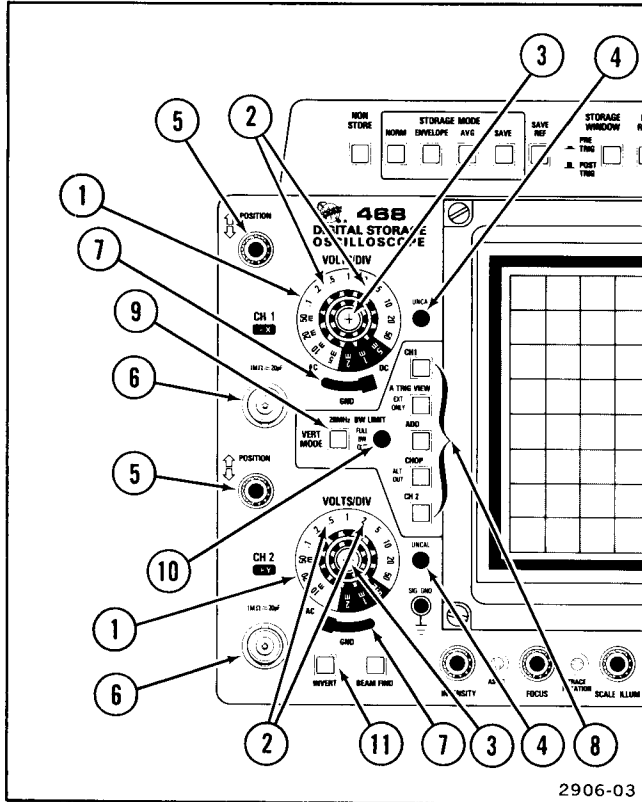

Figure 3. Vertical controls, connectors, and indicators.
Refer to Figure 3 for location of items 1 through 11.
- ① **VOLTS/DIV Switches**—Select the vertical deflections factor from 5 mV per division to 5 V per division in 10 steps for Channel 1 and Channel 2 in a 1-2-5 sequence. Three additional switch positions (0.5 mV, 1 mV, and 2 mV) are used in storage modes to vertically expand the waveform acquired at 5 mV per division (up to 10 times). VAR control must be in the calibrated detent to obtain a calibrated deflection factor. These switches also set the scale factor of the digital storage VOLTS measurement LED readout.